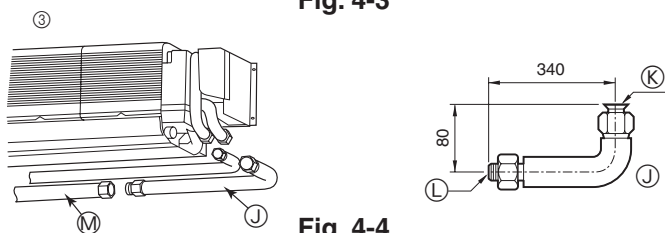

Fig. 4-4
(3) L-shaped connection pipe (for gas piping) (Fig. 4-4)
- (A) 107 mm (P63), 102 mm (P100)
- (B) Drain hose
- (C) Liquid pipe
- (D) Gas pipe
- (E) Drain hose in left-side piping
- (F) Knockout holes on the unit body
- (G) For left-side piping
- (H) For lower-side piping
- (I) For right-side piping
- (J) L-shaped connection pipe (option)